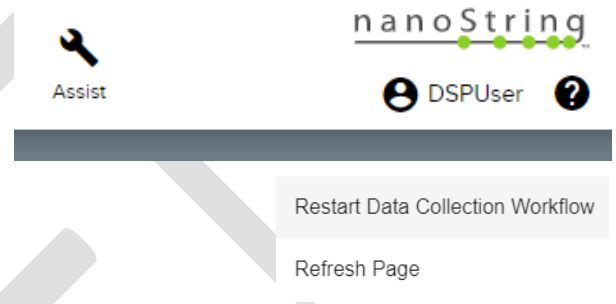

Figure 1: Assist wrench icon to Restart Data Collection Workflow and Refresh Page.
- In the event of a failed run and with the advice of GeoMx support, it is possible to restart the workflow. To do so, click the **Assist** wrench icon (Figure 1) and select **Restart Data Collection Workflow**.
- If the screen appears **blank, inaccurate, or unresponsive**, **refresh the page**. This may be performed remotely or directly at the instrument. To do this, use keyboard shortcuts **Ctrl+R** or **F5** or click the **Assist** wrench icon (Figure 1) and select **Refresh Page**. You may also use **Ctrl/Alt/Delete** to log out of and then back into Kiosk mode.
- When first opening the GeoMx software, click on **Assist** wrench icon (see Figure 1) and choose **Restart the Workflow Process before starting other tasks or initializing a new run** (this will ensure the instrument door unlocks as a new run is initialized).